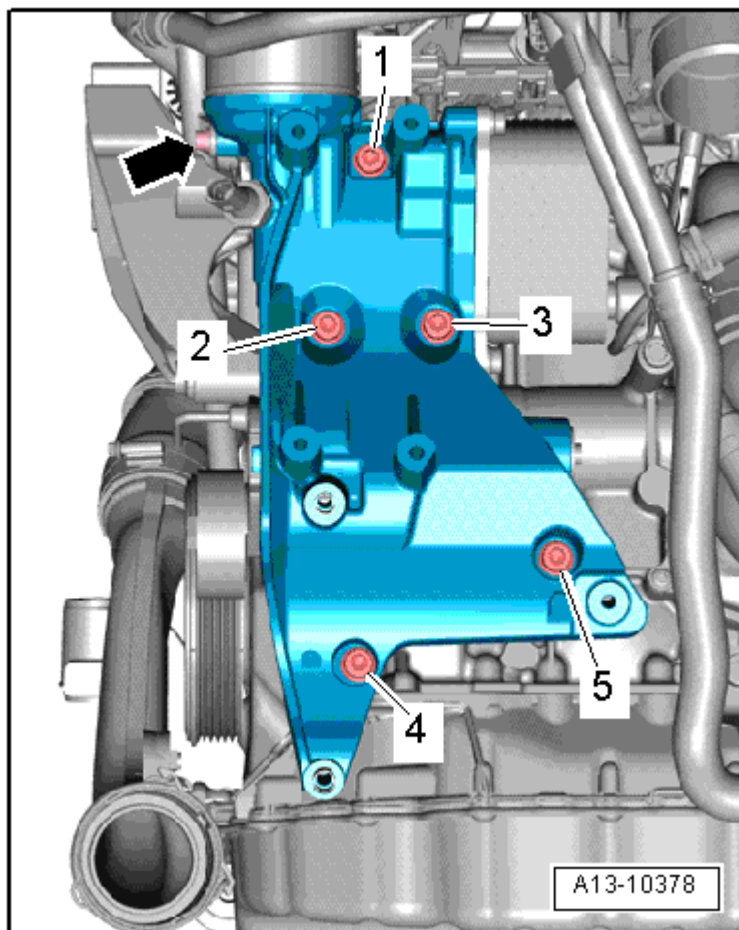

Fig. 8: Identifying Accessory Assembly Bracket Tightening Sequence
- For the tightening sequence and tightening specification; refer to **Fig. 8**.